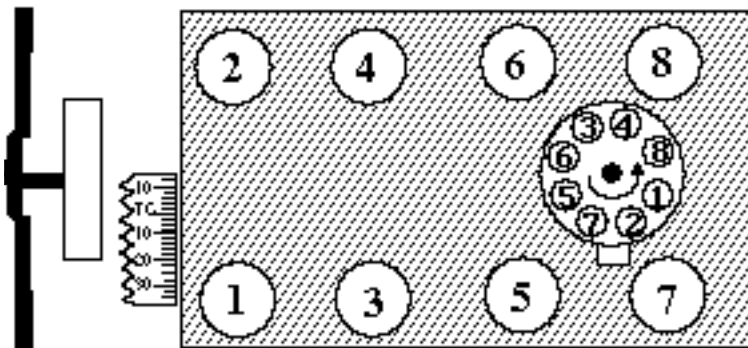

FIGURE 1
4. For cylinder numbering and firing order. See Figure 1.